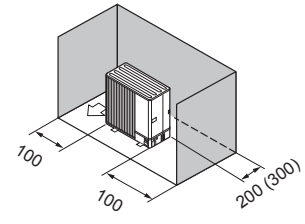

Fig. 1-8
- ③ Obstacles at rear and sides only (Fig. 1-8)